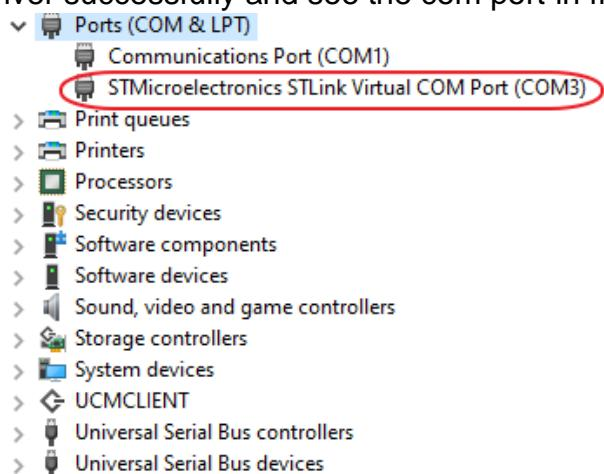

Figure 10: COM information
**Step2:** Install the driver successfully and see the com port in figure 10: